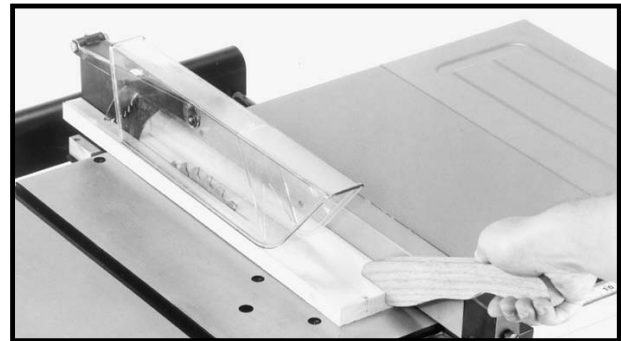

Fig. 49
2. If the ripped work is less than 4 inches wide, a push stick should always be used to complete the feed, as shown in Fig. 49. The push stick can easily be made from scrap material as explained in the section **“CONSTRUCTING A PUSH STICK.”**